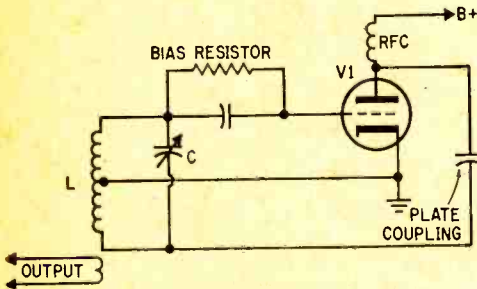
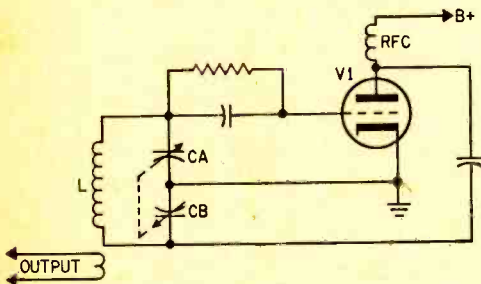

Fig. 4. Hartley oscillator has tapped coil for feedback voltage divider. Remember H for Hartley, and H for Henry (unit of inductance in a coil).
Fig. 5. Colpitts oscillator has series capacitors in feedback voltage divider. Remember C for Colpitts, and C for Capacitor and you can't go wrong.
A. The Hartley oscillator is given in Fig. 4—the Colpitts in Fig. 5. These are shunt fed oscillators. The diagrams on the test may be either shunt or series fed. The tube may be a triode or a pentode ECO.